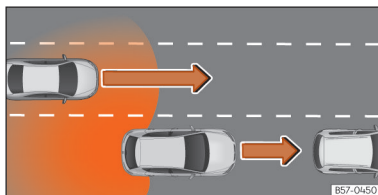

Fig. 119 Overtaking with traffic behind the vehicle.
- When being overtaken by another vehicle »» **Fig. 119**.